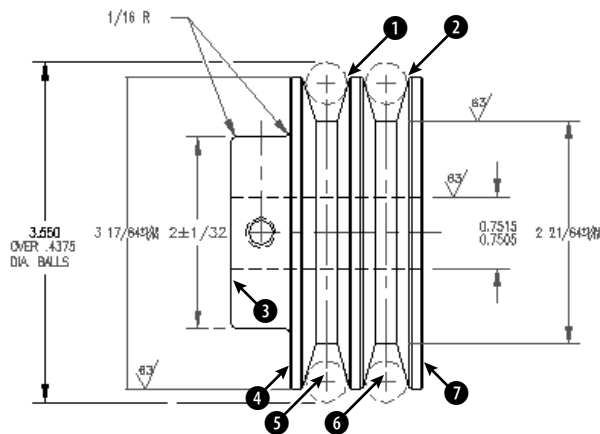

Figure 14-30: You can use Quick Dimension to dimension the circles and create continuous dimensions.
2. Save the file as `ab14-07.dwg` in your AutoCAD Bible folder. This is the same drawing that you used in the previous exercise, except that some of the dimensions have been removed (see Figure 14-30). OSNAP should be turned off. If the Dimension toolbar isn't displayed, right-click any toolbar and choose Dimension.
Select geometry to dimension: *Pick the circle at ① in Figure 14-30.*
Select geometry to dimension: *Pick the circle at ② in Figure 14-30.*
Select geometry to dimension: *Pick the line at ③ in Figure 14-30.*